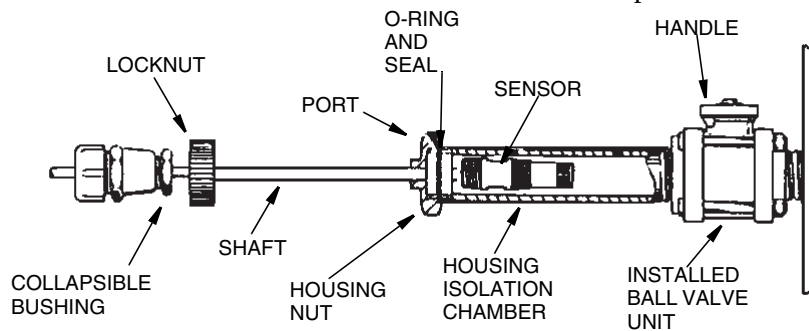

Figure 18. Ball Valve Shaft Removal
Do not loosen the **housing nut** (see Figure 18) when the ball valve unit is open and the process line or tank is filled and pressurized.
2. Position the sensor in the ball valve unit housing isolation chamber (see Figure 18). Draw the sensor back until it reaches a mechanical stop.
3. Turn the handle on top of the ball valve unit (see Figure 18) to the close position (indicated by the arrow on top of the handle).